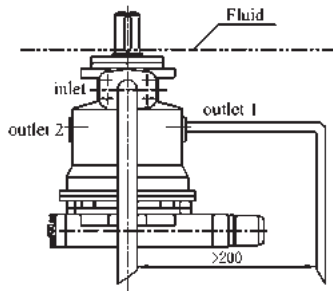

Fig. 1
a) 当油箱的最低液面高于或等于安装法兰面时，将泄油口 2 堵死，而将泄油口 1 和进油口打开，建议按图 1 配管。
a) If the minimum fluid level is equal to or above the pump mounting face close port "outlet 2" plugged, leave port "outlet 1" and "inlet" open, "outlet 1" piped and recommendation inlet piped (see Fig.1).